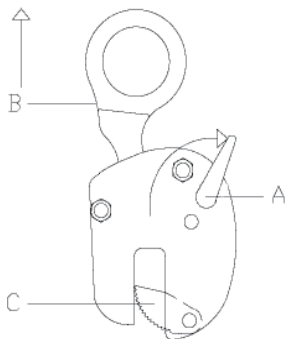

Figure 7
5. Secure the clamp in the “locked closed” position. Do this by raising the handle (A, Fig. 7) until it is positioned against the stop (D) and pulling the shackle (B) away from the clamp. This will bring the gripping cams (C) down in the locked position against the material to be lifted. If using a clamp with the **auxiliary lock**, make sure the auxiliary lock plunger has securely locked into the handle.